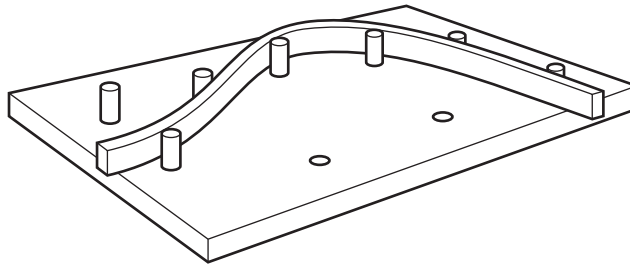

Fig. 3
- 6 Fig. 3 shows a bending jig. [2]